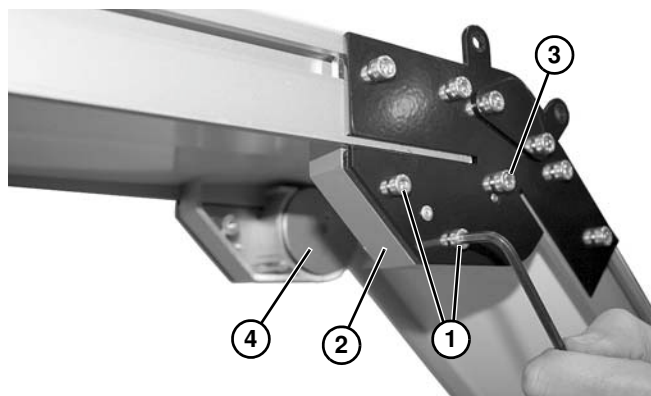

Figure 131
- If equipped with an upper knuckle, remove screws (**Figure 131, item 1**) and remove guard (**Figure 131, item 2**) on both sides of knuckle.
- Remove screw (**Figure 131, item 3**) and remove roller bearing assembly (**Figure 131, item 4**) on both sides of knuckle.